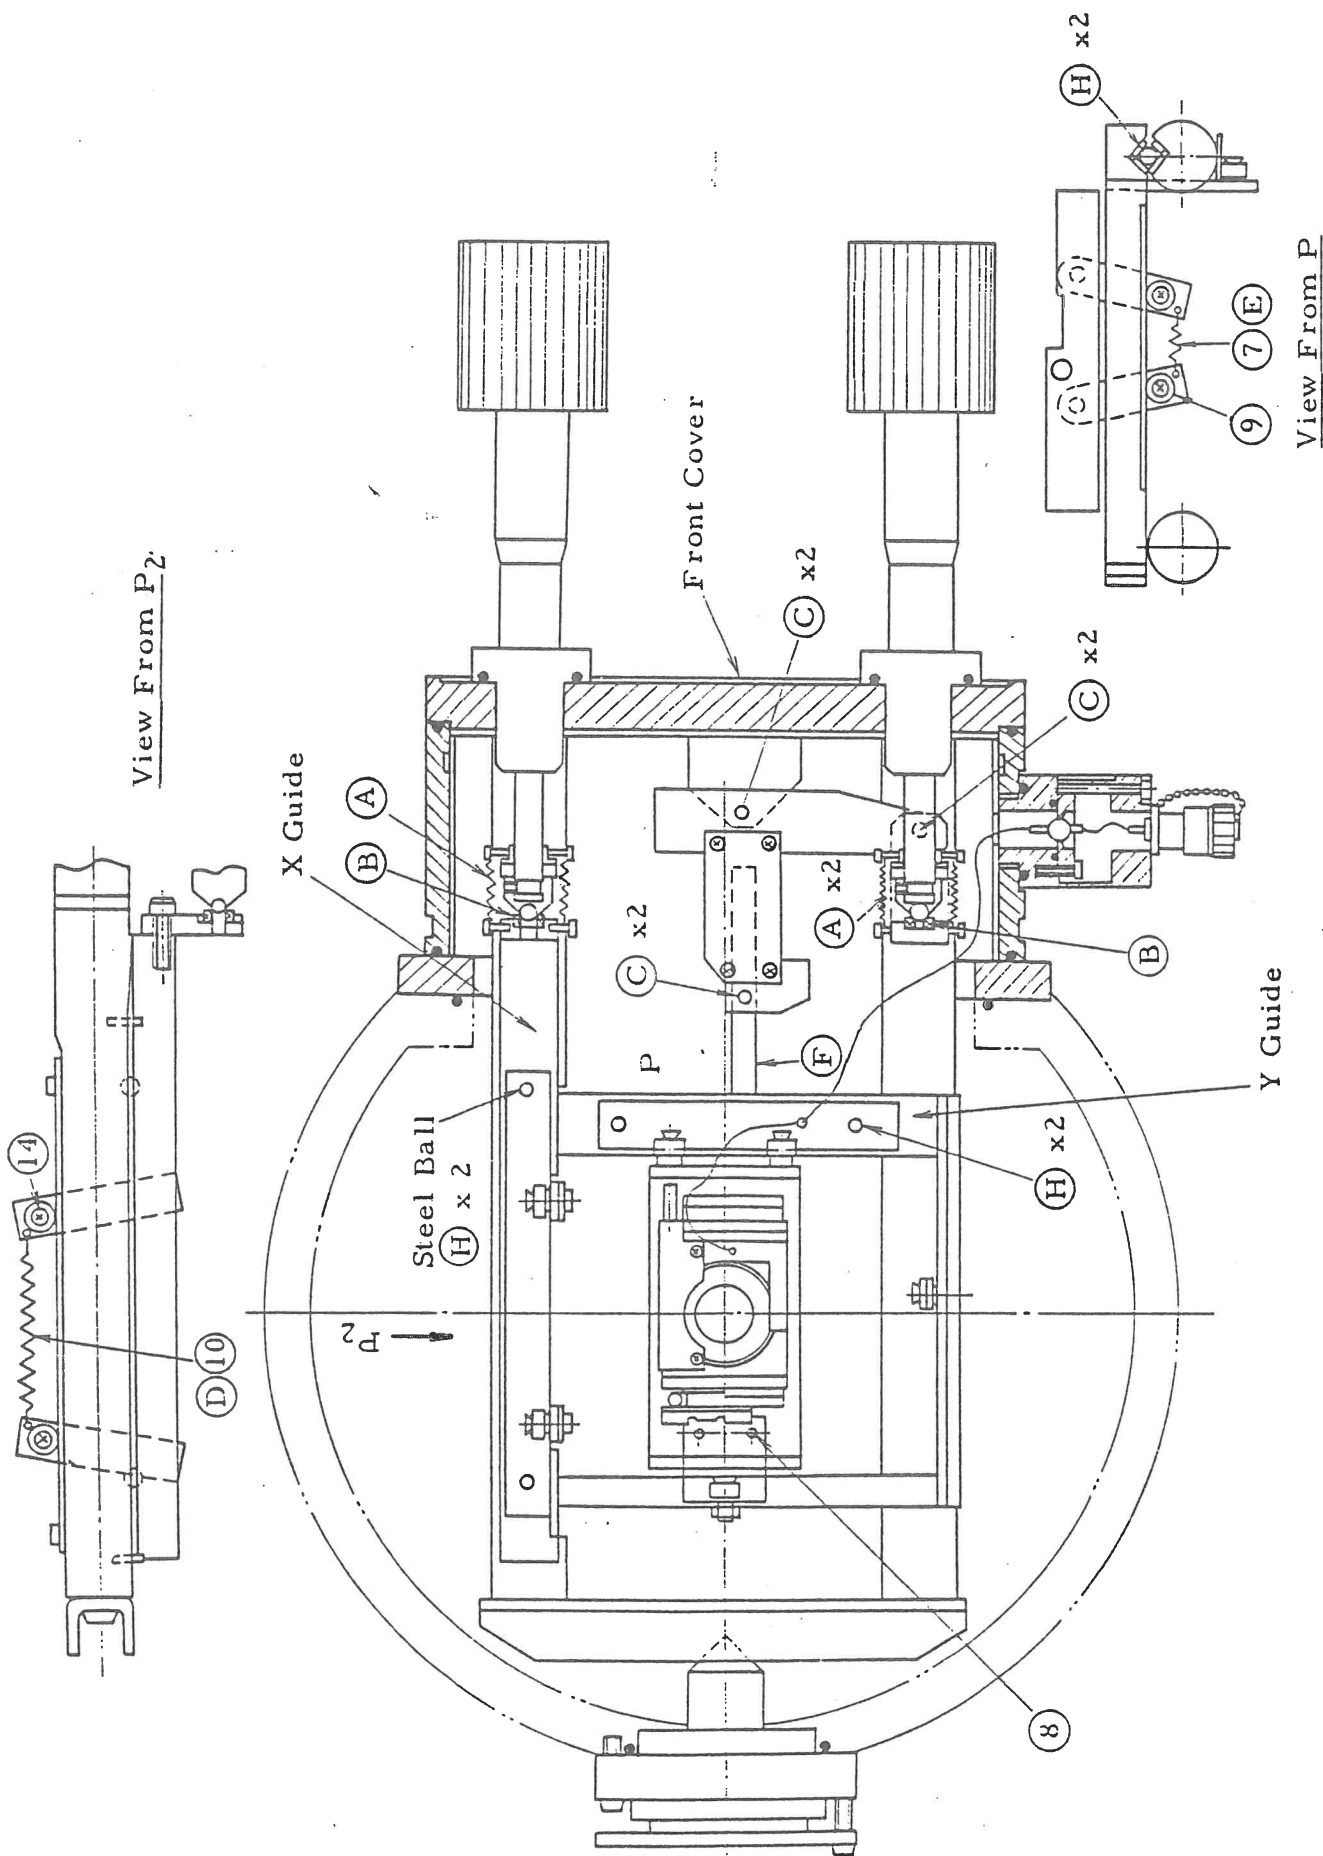

Fig. 4-13 Plan of Specimen Goniometer Stage
- 1) Loosen spring (10) (Fig. 4-13).
- 2) Loosen screw (14) (Fig. 4-13) to detach two bearings.
- 1) Detach spring (7) (Fig. 4-13).
- 2) Loosen two screws (9) (Fig. 4-13) to detach the bearing.
- 3) Loosen two screws (8) (Fig. 4-13) to detach the part.
- 2) Check if spring (A) (Fig. 4-13) is normally fixed to the tip of X, Y knob.
- 3) Check if bearing (B) (Fig. 4-13) is properly mounted.
- 4) Check Y-lever pivot (C) (Fig. 4-13) for play.
- 5) Check if springs (D), (E) (Fig. 4-13) are properly mounted.
- 6) Check if Y-guide shaft (F) (Fig. 4-13) is securely clamped.